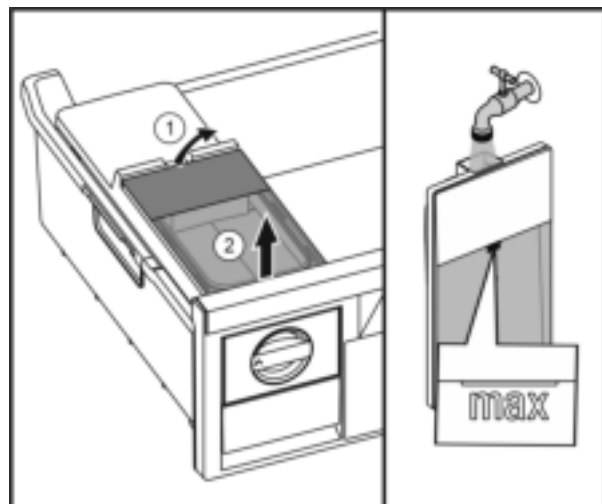

Fig. 26
- ▶ Lift up the water tank at the rear Fig. 26 (1) and take it out upwards Fig. 26 (2).